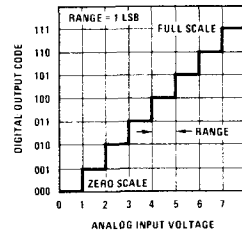
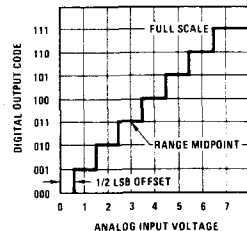

FIGURE 8. Quantization Uncertainty of a Perfect 3-Bit A/D
FIGURE 9. Transfer Characteristic Offset 1/2 LSB to Minimize Quantizing Uncertainty
**Quantization Uncertainty:** Quantization Uncertainty is a direct consequence of the resolution of the converter. All analog voltages within a given range are represented by a single digital output code. There is, therefore, an inherent conversion error even for a perfect A/D. As an example, the transfer characteristic of a perfect 3-bit A/D is shown in Figure 8.
offset the converter 1/2 LSB in order to reduce the Uncertainty to  $\pm 1/2$  LSB as shown in Figure 9. Rather than +1, -0 bit shown in Figure 8. Quantization Uncertainty can only be reduced by increasing Resolution. It is expressed as  $\pm 1/2$  LSB or as an error percentage of full scale ( $\pm 0.0122\%$  FS for the ADC1210).